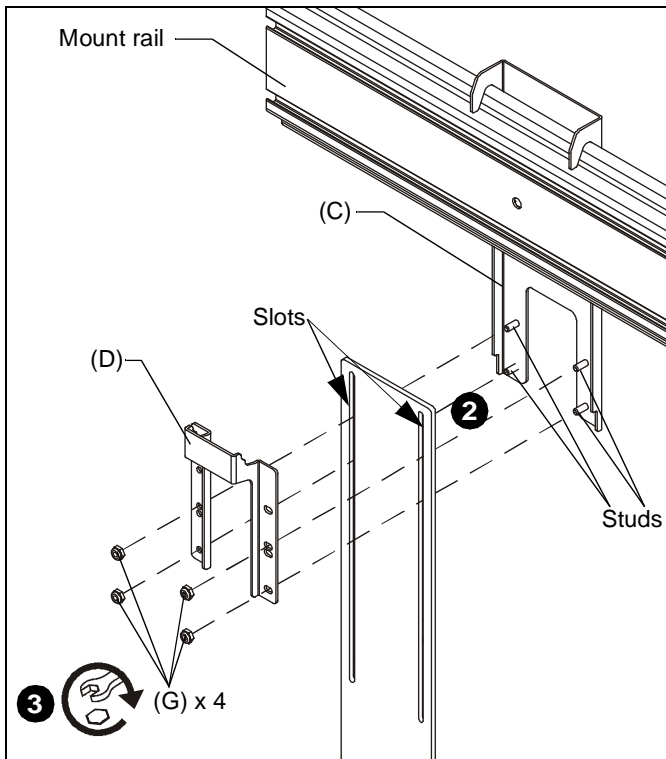

Figure 2
2. Hang shelf upright (B) onto the hanging bracket (C), placing studs on hanging bracket into slots on shelf upright. (See Figure 2)
3. Attach retaining bracket (D) to shelf upright, pressing retaining bracket against mount rail and tightening, using four 10-24 lock nuts (G). (See Figure 2)